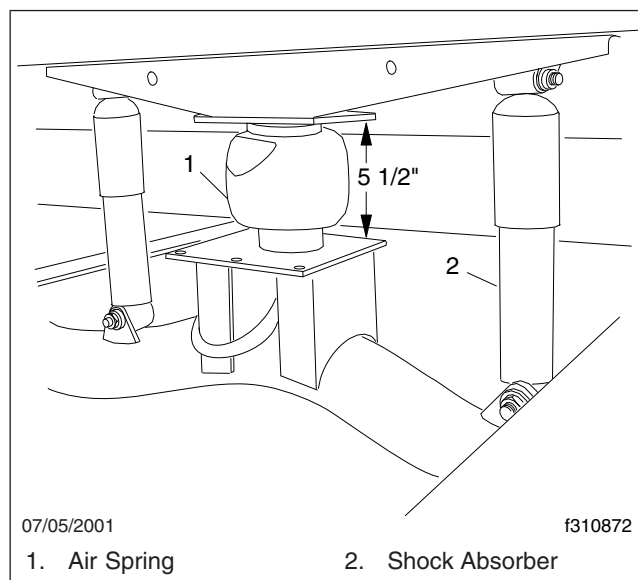
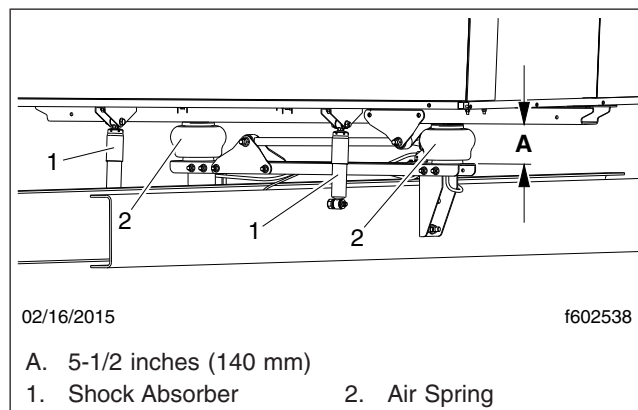
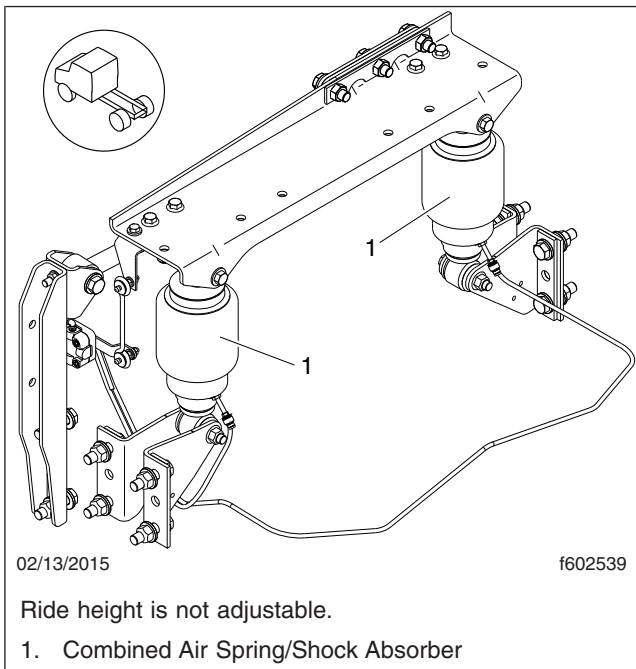

Fig. 1, Single Air Spring Cab Suspension (typical)
Fig. 2, Dual Air Spring Cab Suspension (typical)
Fig. 3, Air Spring/Shock Absorber Suspension
1. On single and dual air spring systems, inspect the air spring(s) at the rear of the cab. Check for wear, air leaks, and damage. See Fig. 1 for typical single air spring suspension, Fig. 2 for a typical dual air spring suspension. Replace damaged components if necessary.
On combined air spring/shock absorber suspension, check for wear, air leaks, fluid leaks, and damage. See Fig. 3 for air spring/shock absorber suspension. Replace damaged components if necessary.
2. On single or dual air spring suspensions, check the distance between the top and bottom air spring mounting brackets. the air spring(s) should be inflated so that the distance between the top and bottom brackets measures 5-1/2 inches (140 mm). See Fig. 1 for typical single air spring suspension, Fig. 2 for a typical dual air spring suspension.
3. Inspect the cab suspension shock absorbers for wear, damage, or leaking fluid. See Fig. 1 for single air spring suspension, Fig. 2 for dual air spring suspension or, Fig. 3 for air spring/shock absorber suspension. Replace if necessary.